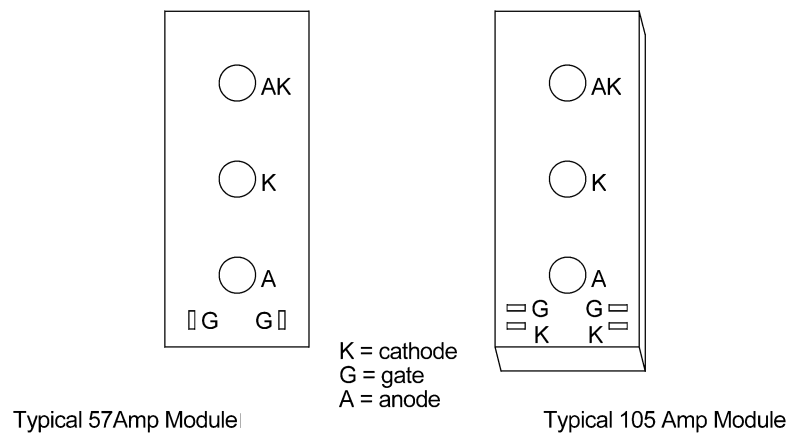

Figure 18 - for 3RW355*--..
Make sure all power sources are disconnected from controller and locked out before performing the following test. See figures 18 through 20.
1. Disconnect the module anode to cathode power terminal jumper (figures 18 - 20) to test individual SCR's for reverse blocking and forward off state voltage.
Select between figures 18 through 20 which layout works best for the situation.